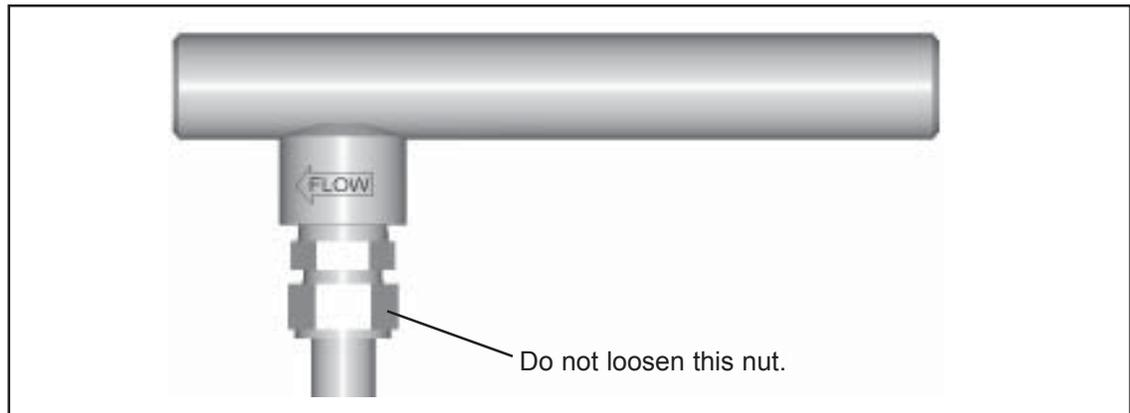

Figure 4. Model ST98L In-Line Butt Weld Mount
Figure 4 shows a Butt Weld, 2 inch Schedule 40 pipe, in-line model ST98L:
1. Verify that the process media flow is in the same direction as the flow arrow (see Figure 4).